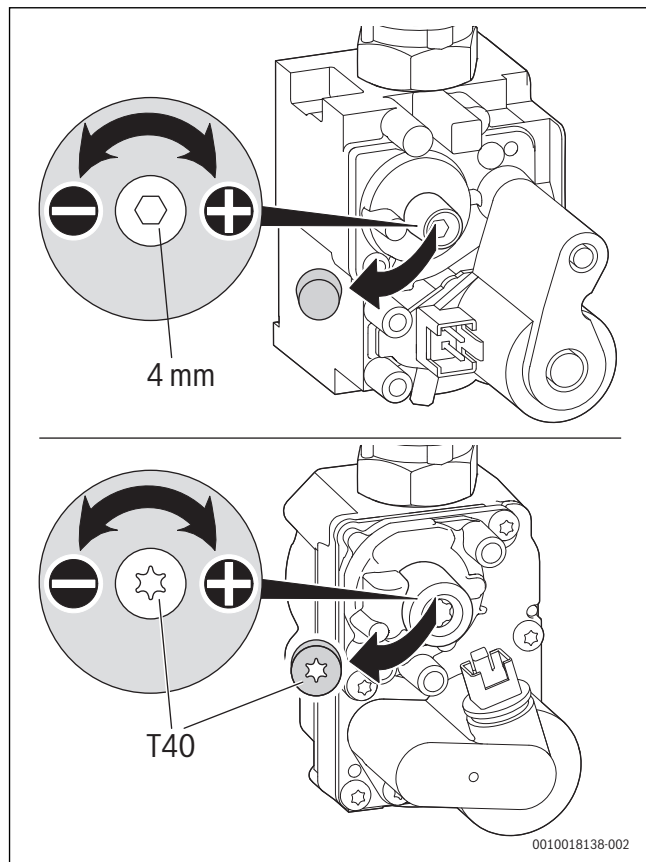

Fig. 95 Setting the CO₂ content (above: SIT valve, below: Honeywell valve)
- ▶ Remove the seal from the adjusting screw of the air/gas ratio control valve (only air/gas ratio control valve is shown in the below Fig. 95) and set the CO₂ content for minimum rated output.